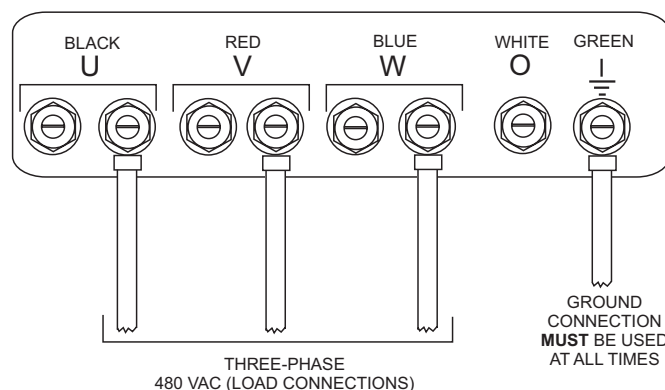

Figure 32. UVWO Terminal Lugs 3Ø-480V Connection
2. Connect the load wires to the UVWO terminals as shown in Figure 32.